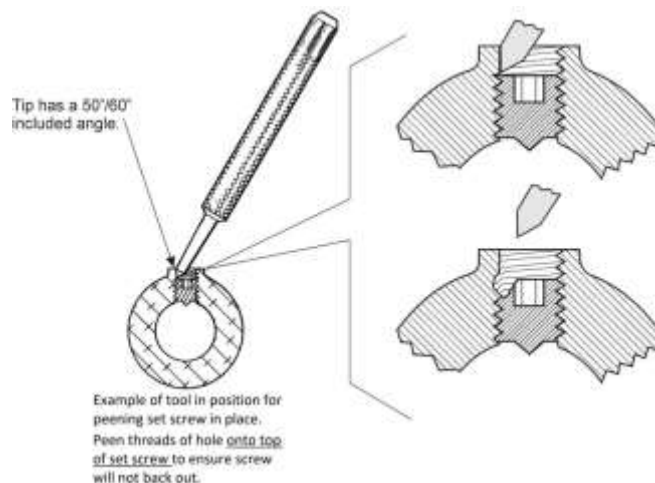

Figure 80
NOTICE: To ensure that there is adequate material in the set screw hole topeen on top of the screw, use a new set screw that is shorter than the one previously removed. A smaller diameter center punch could be necessary. Refer to Figure 80.
- (3) Torque the set screw 32 to 38 in.-lb. (3.6 to 4.3 Nm).
- (4) Use a smaller center punch (peening tool) with a 3/32-inch (2.38 mm) diameter at an approximate 50°/60° angle topeen the threads of the hole at the top of the taper above the set screw to prevent the set screw (as shown in Figure 80) from backing out.